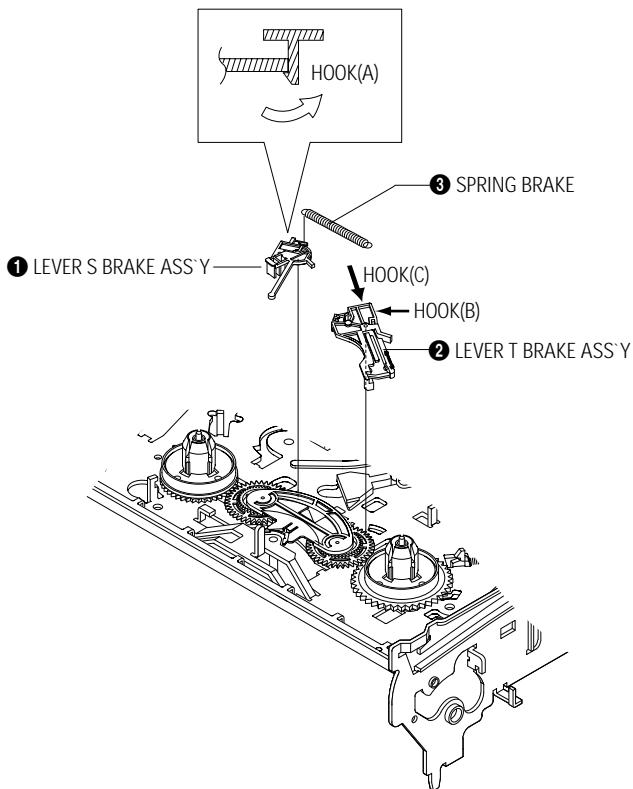

Fig. 4-22 Lever Brake S, T Ass'y Removal
- 1) Remove the Lever Brake S Ass'y (Refer to Fig 4-22)
- 2) Remove the Spring Tension Lever ①.
- 4) Lift the Lever Tension Ass'y ② & Band brake Ass'y ③.
- 1) Release the Hook [A] and the Hook [B], [C] in the direction of arrow as shown in Fig 4-22.
- 2) Lift the Lever S, T Brake Ass'y ①, ② with spring brake ③.